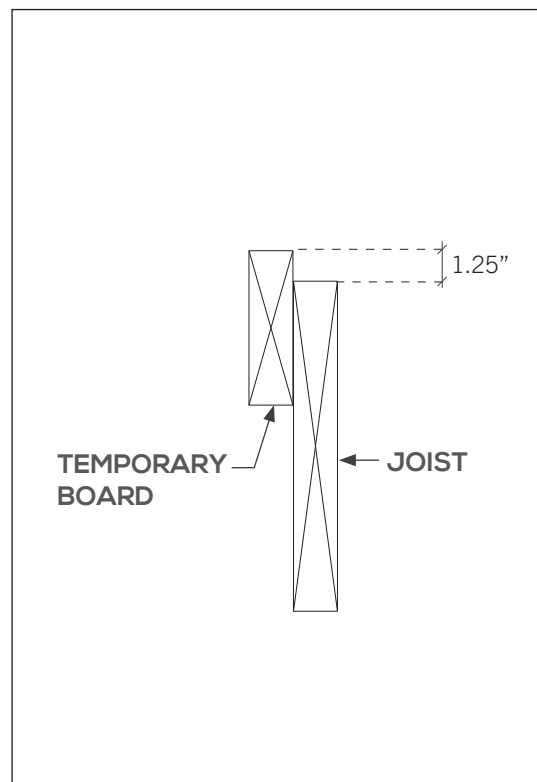

Figure 2
7. Once the substructure is in place, place a temporary board on exterior of the joists to align your Tredz™ boards when starting. (Fig. 2)